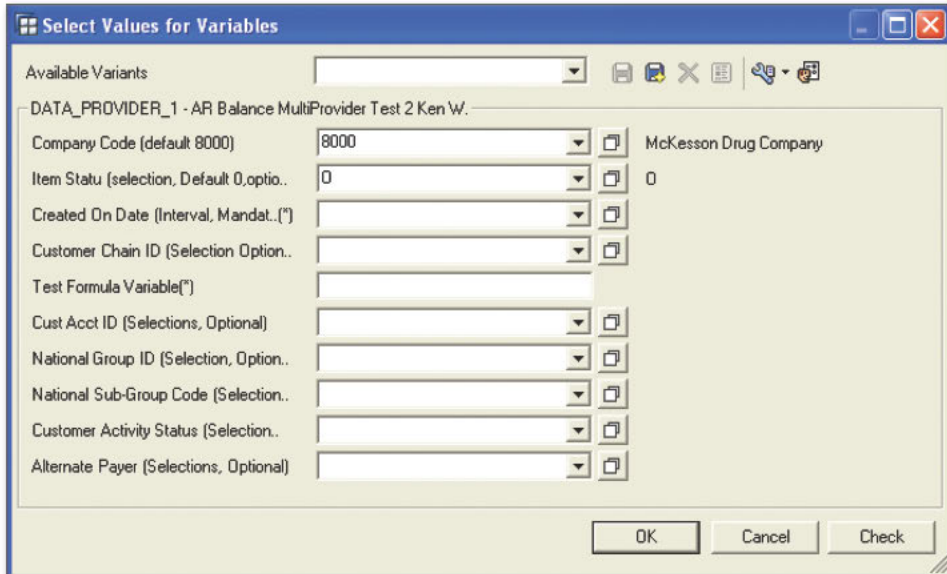

Figure 3 Test Formula Variable Now Active in the Query
7. Run the query and you'll see an input prompt for that variable (TEST FORMULA VARIABLE) (Figure 3).
- ▶ Issue the command to create an index at the database level as shown in Figure 3.
➤ *Figure 3 Create Index Command*